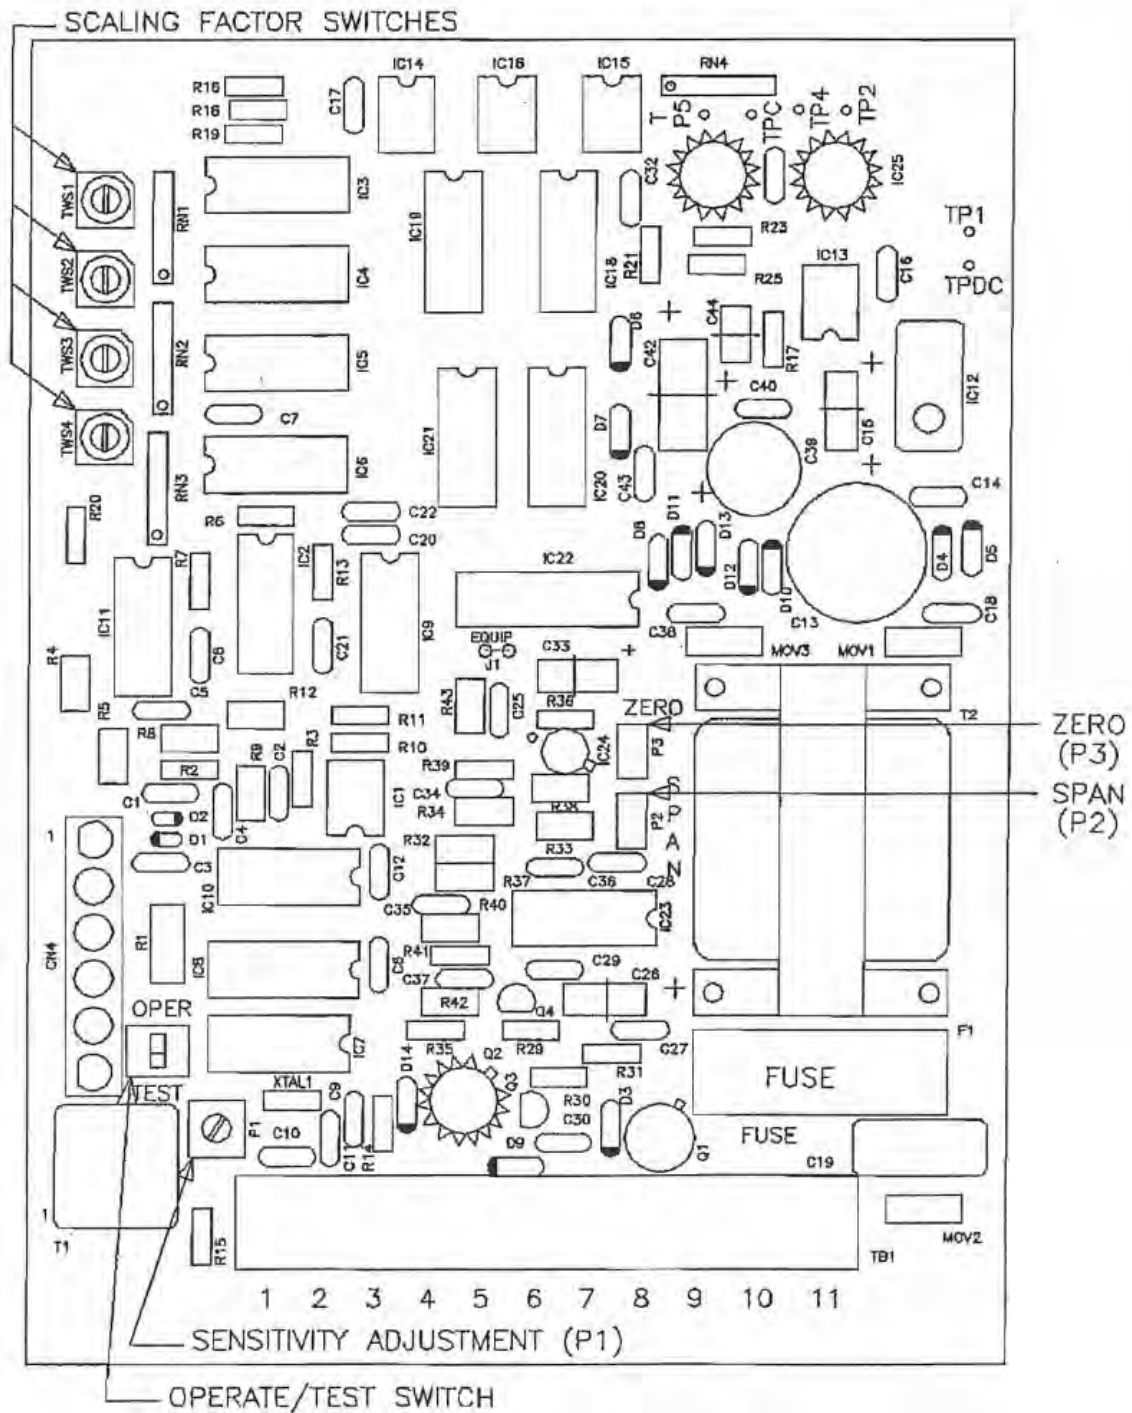

FIGURE 5-2 ELECTRONICS UNIT CONTROLS
4. Open the door of the electronics unit. Refer to figure 5-2 and locate the SENSITIVITY ADJUST (PI). Taking the nonmetallic alignment tool, slowly turn this adjustment CCW until false totalization and rate indication have stopped.
2. Open the door of the electronics unit. Refer to figure 5-2 and locate the SENSITIVITY ADJUST (PI). Taking the nonmetallic alignment tool, slowly turn this adjustment fully CW.